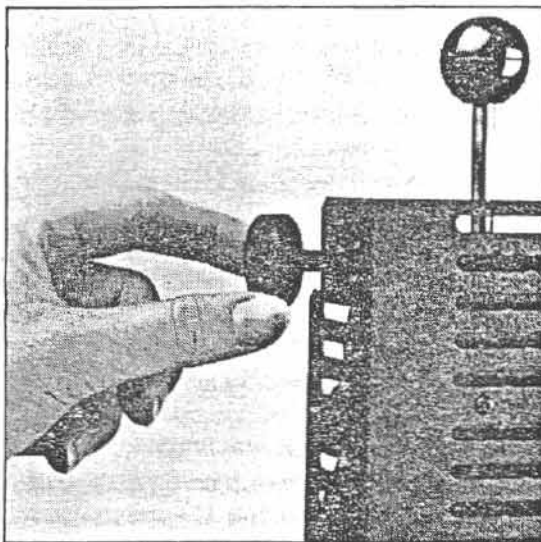

FIGURE 10. VACUUM PICK-UP LOCKING KNOB
- lower the Upper Heater Assembly, refer to Figure 10,